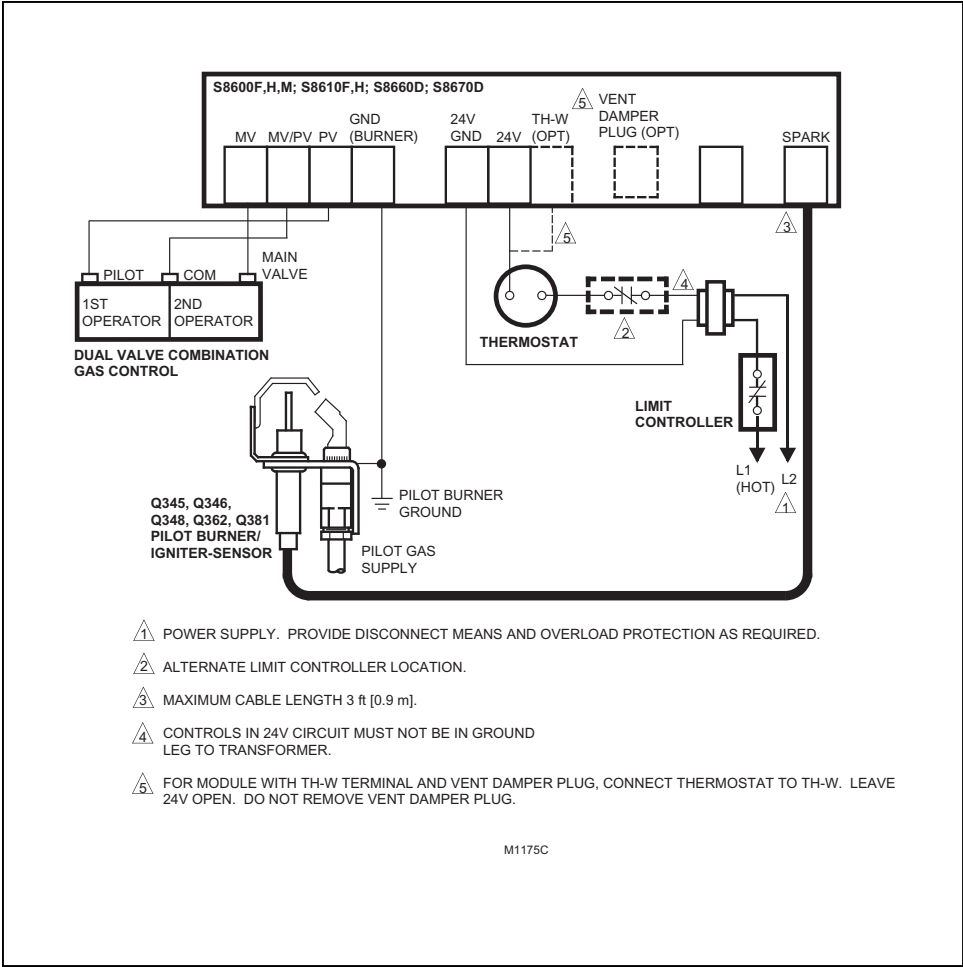

Fig. 1—S8600F,H,M; S8610F,H; S8660D; S8670D connections in a heating system with an atmospheric burner.
gram, Figs. 1 to 10.
- Fig. 1 is a basic circuit for a heating only atmo-